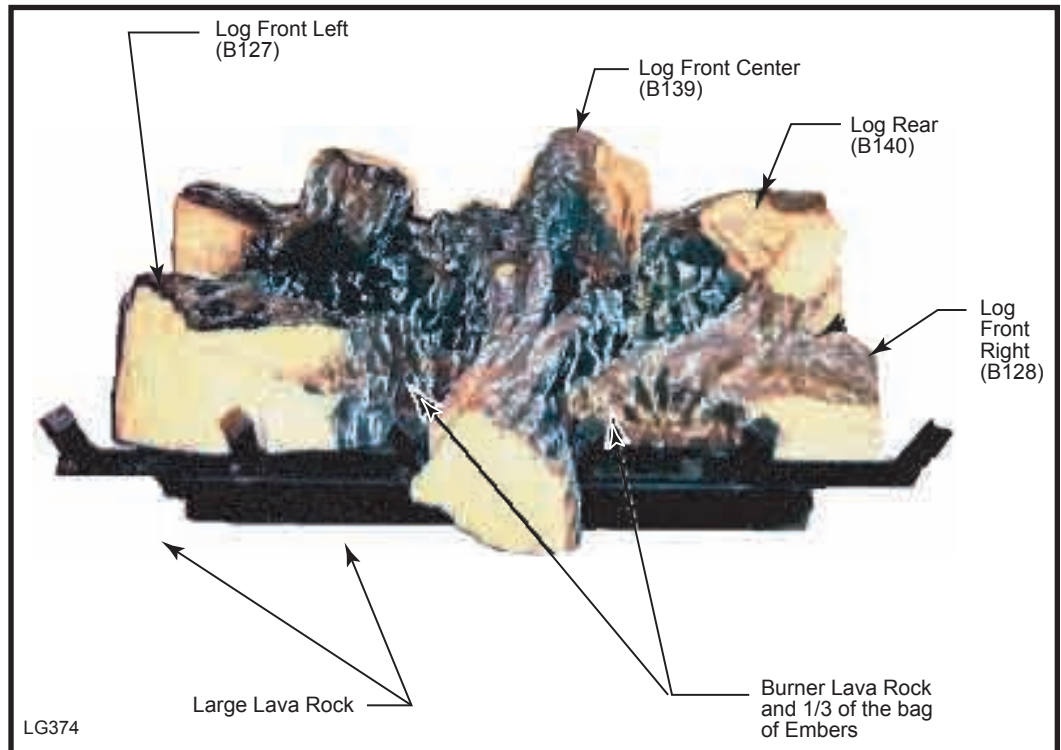

Fig. 49 DV360 log, burner lava rock, embers and large lava rock placement.
Refer to Figure 49.
1. Fit rear log (B140) in place. Use the two (2) underside holes of the Fit log fit over the two (2) pin studs of the rear log bracket.
4. Place burner lava rock and 1/3 of the bag of platinum embers on the front area of the burner. (Fig. 49)
6. Place large lava rock around the front grate area as shown in Figure 49.